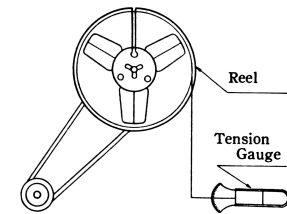

Fig. 11
- 1) Form a loop at the end of No. 3 Tape by sticking tape end with adhesive tape and place the reel on take-up reel holder as shown Fig. 11.